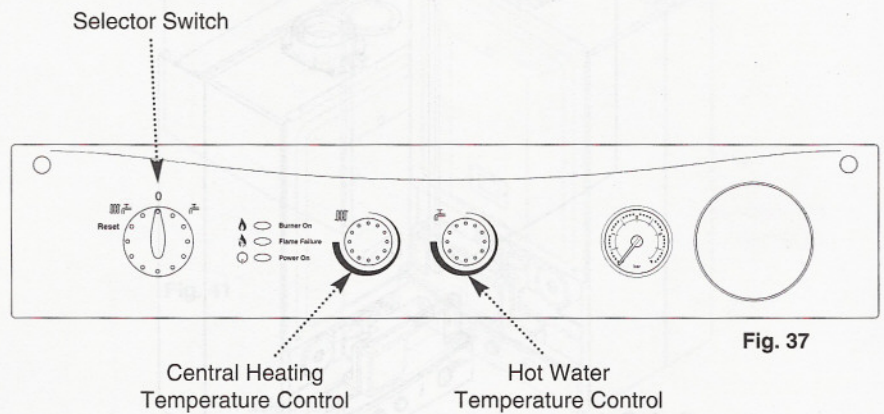

Fig. 37
2. Set the hot water and central heating temperature controls to maximum and the selector switch to the OFF position (Fig. 37).
6. Turn the selector switch to the Central Heating and Domestic Hot Water position ( 𠄎𠄎 ). The power ON light ( 𠄎 ) will illuminate (Fig. 37).